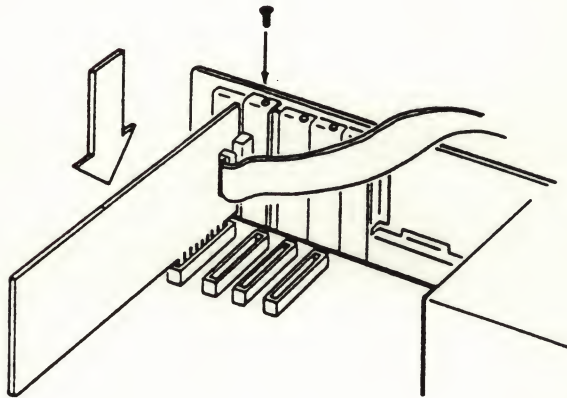

Figure 3-5 Installing the Tape Controller Card
5. Install the controller card, with cable attached, into your expansion slot as shown in Figure 3-5.